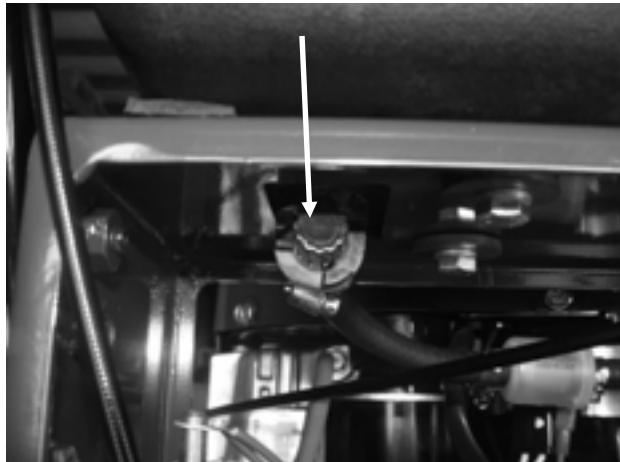

Figure 20
1. Turn gas tank valve to Off position **Figure 20**.